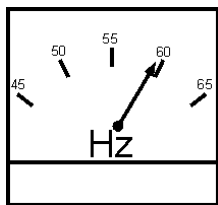

Figure 55. Frequency Meter (Hz)
13. The generator's frequency meter (Figure 55) displays the 60 cycle output frequency in **HERTZ**.